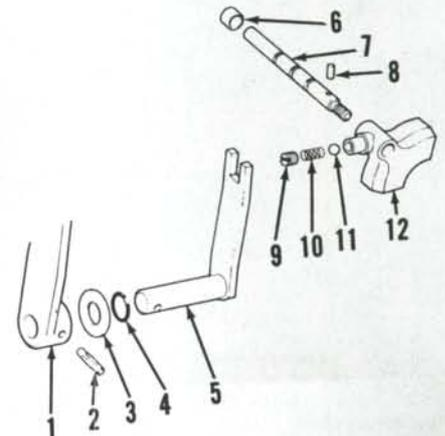

Fig. 230—Exploded view of typical pto shift linkage. Some models use a retainer plate to secure shift rod (7) in place of pin (8).
299. **REASSEMBLY.** Install new "O" ring (4—Fig. 230) in housing shift arm bore. Assemble shift arm (5) and shift lever (1) using shims (3) as necessary to provide 0.13-0.25 mm (0.005-0.010 inch) end play.
To reassemble shift fork (12—Fig. 230), insert a 13 mm (1/2 inch) x 30 mm (1 1/4 inches) dowel into shift rod hole in fork. Assemble detent ball spring and plug in fork and tighten plug until outer end is even with chamfer in shift fork. Install fork on sliding gear, install spacer (6), then push shift rod (7) into fork until it moves dowel out of fork and detent ball engages with shift rod. Install special pin (8) into housing and shift rod making sure end of pin with the hole faces upward.